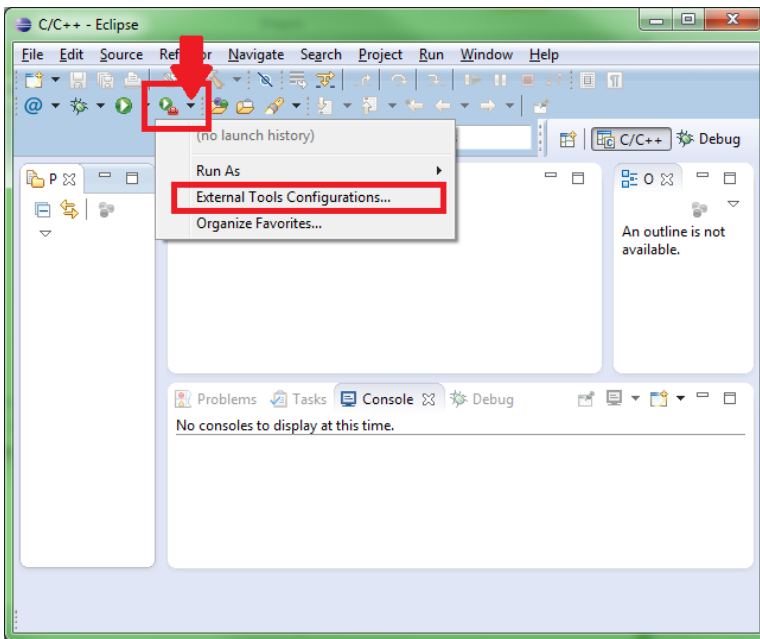

Figure 11: Opening Eclipse external tools configuration window
3. Click the small down arrow next to the debug-tools  icon and choose 'External Tools Configurations ...' as shown in Figure 11.